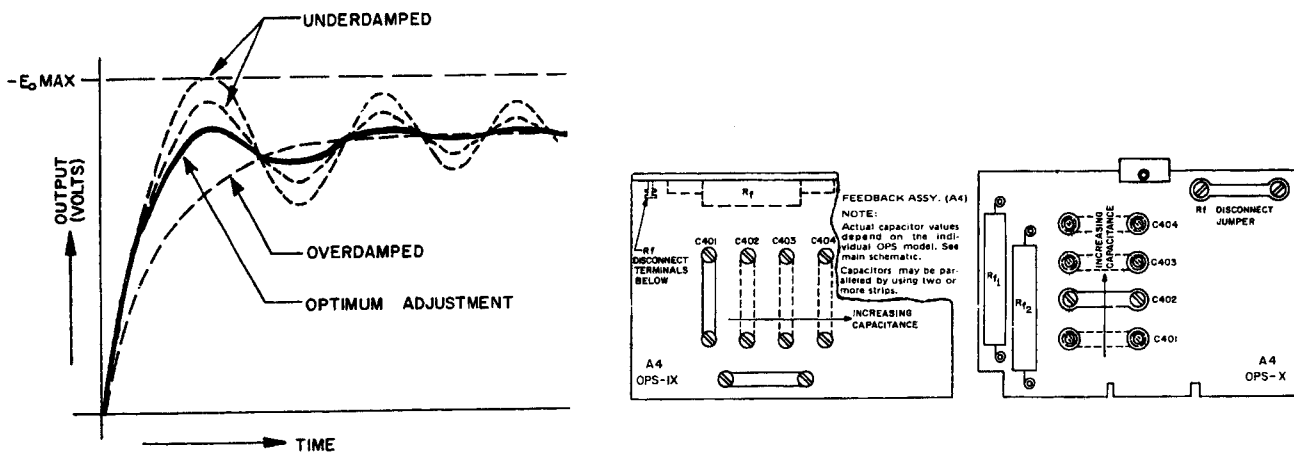

FIG. 3-5 OUTPUT RESPONSE TO A SQUARE WAVE AND FEEDBACK CAPACITOR LOCATION.
3-16 The wide-band characteristic of the OPS may give rise to dynamic instability ("ringing," "overshoot," "oscillations," etc.) at the output, especially with input sources producing a step-function and/or where the output is loaded with excessive capacitance. In the OPS, provisions have been made to stabilize the voltage channel amplifier for a fairly wide range of load conditions. A feedback capacitor "strapping arrangement" is provided on a printed circuit board (accessible after cover removal) and an adjustable lag network can be controlled through the OPS protective rear cover (OPS GROUP X) or through the front panel (OPS GROUP IX). The response characteristics of the OPS output are adjusted at the factory by optimizing the OPS square wave response at full power output (see FIG. 3-5). In cases of dynamic instability in *your* application, select the feedback capacitor and adjust the lag network as described in the following paragraph.
- 2) If instability is present, remove a-c power from the OPS. Remove the OPS cover and increase the feedback capacitance by changing the jumper link on the auxiliary board (A4- see FIG. 3-5) to the desired position. Re-install cover and turn OPS "on" again.